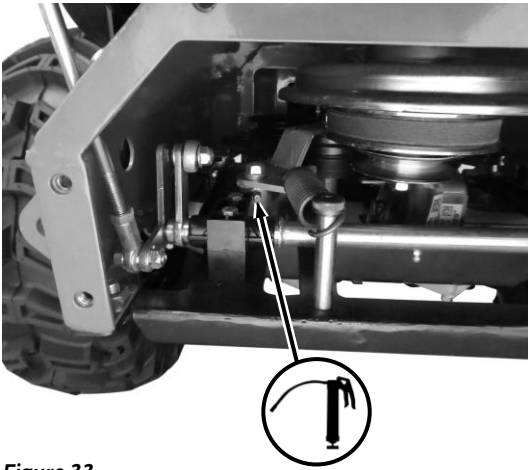

Figure 33
2. Clean the Grease Fitting with a clean Rag (**Figure 33**).